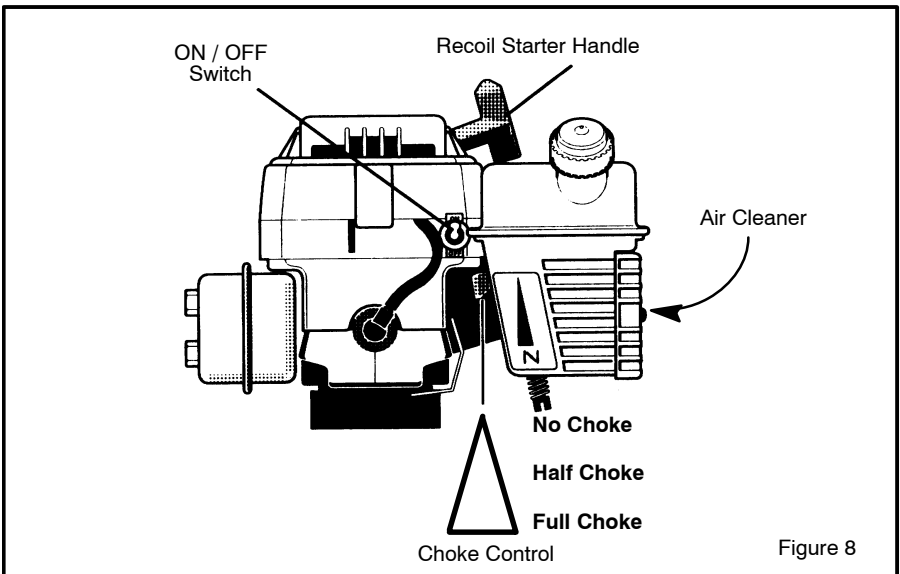

Figure 8
2. Move the ON/OFF switch to the ON position (see Figure 8).